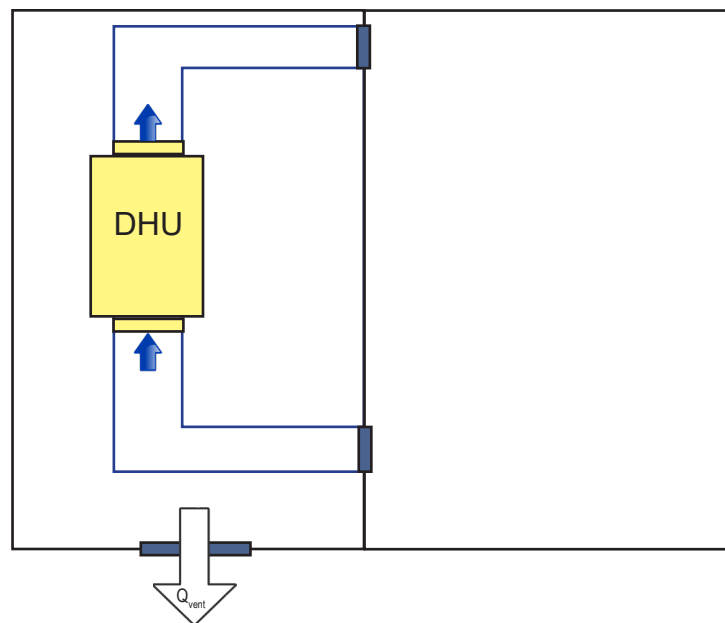

Figure 18: Mechanical Ventilation of Machinery Room to Outdoors
- If mechanical ventilation to the outdoors is required (Figure 18), use Table 6 to determine Q_{min} for the application.